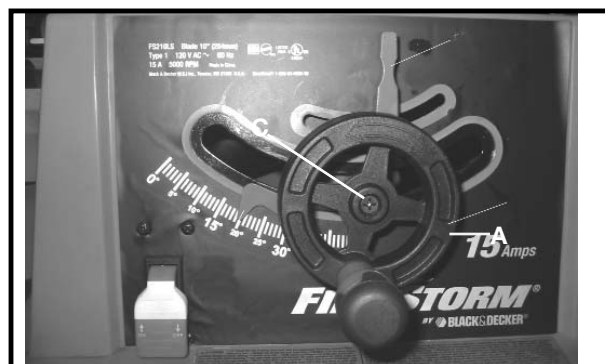

Fig. 13
4. Fasten handwheel (A) Fig. 13, to shaft (B) Fig. 12, using a M6x1x12mm flat head screw (C) Fig. 13.